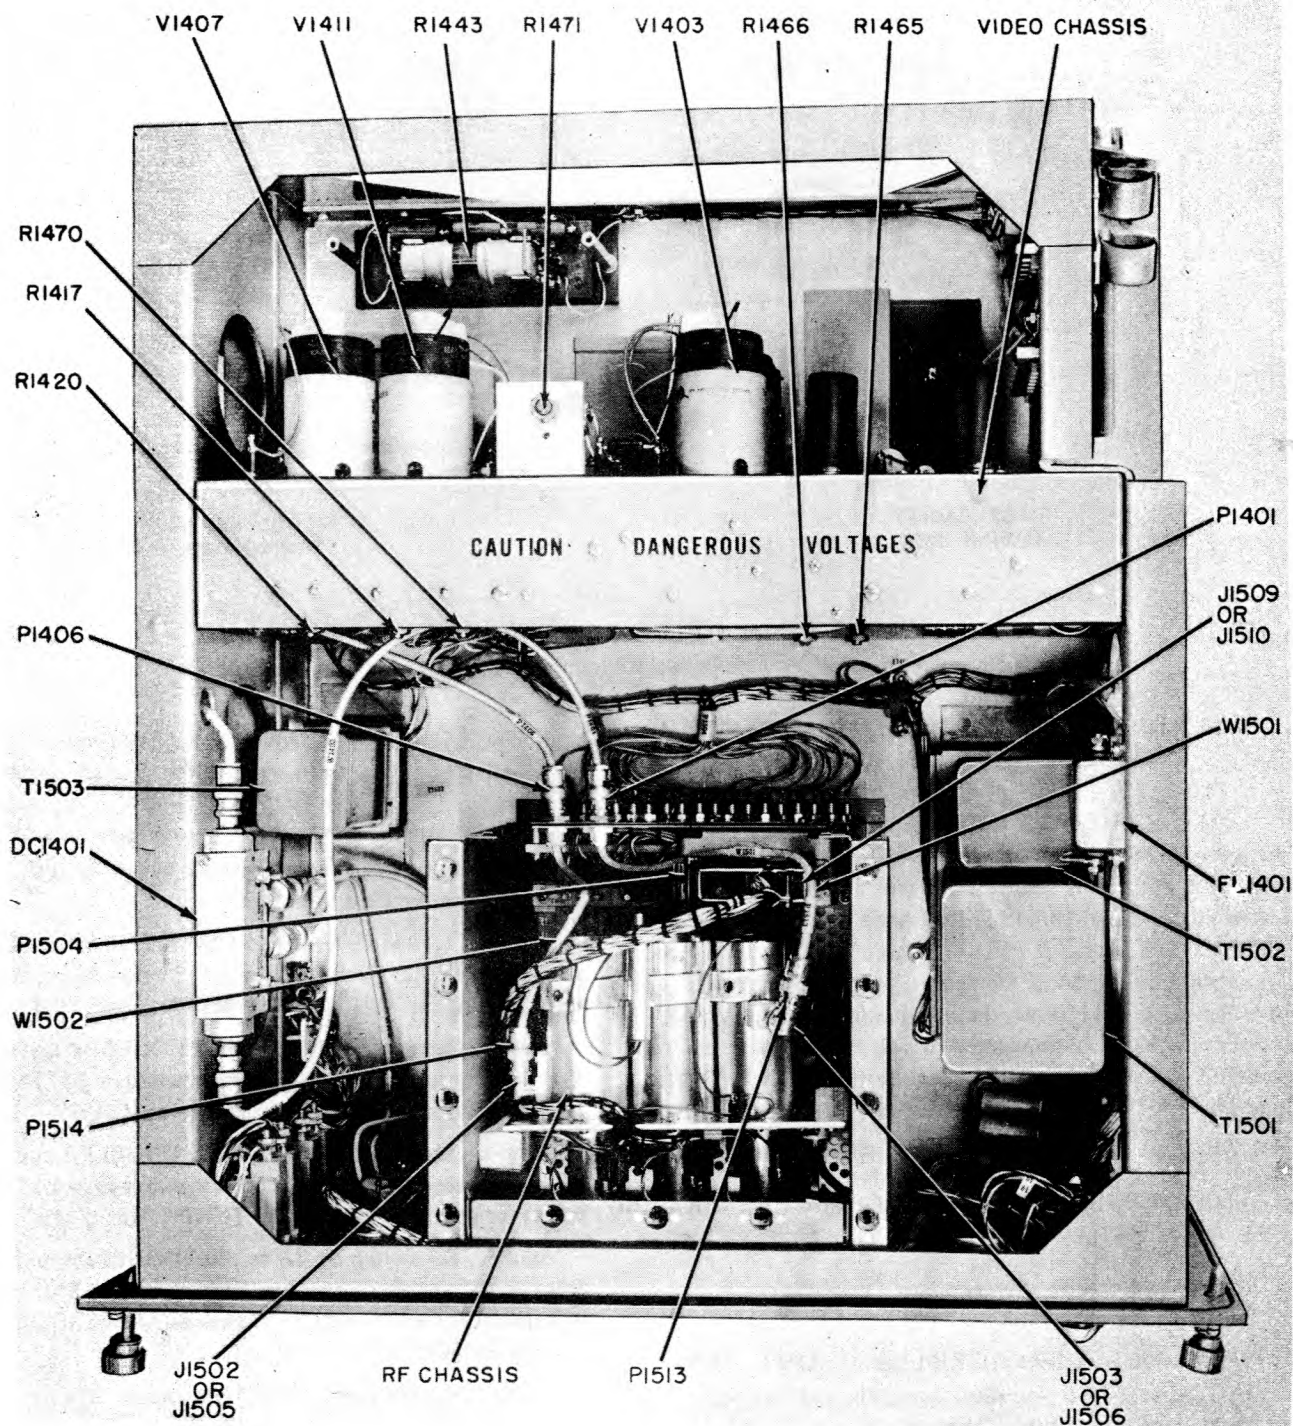

Figure 2-17. Frequency Multiplier-Oscillator CV-1171/GRN-9D, Top View
(1) GENERAL.—If the desired output frequency falls between 962 and 1024 mc, the low-band r-f chassis is used, power plug P1504 is connected to jack J1510, the receiver local oscillator signal plug P1514 on cable W1502 is connected to jack J1505, and plug P1513 on cable W1501 is connected to output jack J1506. If the desired output frequency falls between 1151 and 1213 mc, the high-band r-f chassis is used, power plug P1504 is connected to jack J1509, the receiver local oscillator signal plug P1514 is connected to jack J1502, and plug P1513 is connected to the output jack J1503 (figure 2-17).
(2) TUNING CARRIER FREQUENCY GENERATING CHAIN.
Step 2. Set switch S1401 to OSC, and adjust oscillator tuning coil L1502 (high band) or L1513 (low band) for maximum reading on TUNING meter M1401 (figures 2-17 and 2-18).
Step 5. Reduce grid drive voltage to zero by turning CODER-INDICATOR switch to OFF and potentiometer R1470 located on the frequency multiplier-oscillator video chassis, completely counterclockwise (figure 2-17).